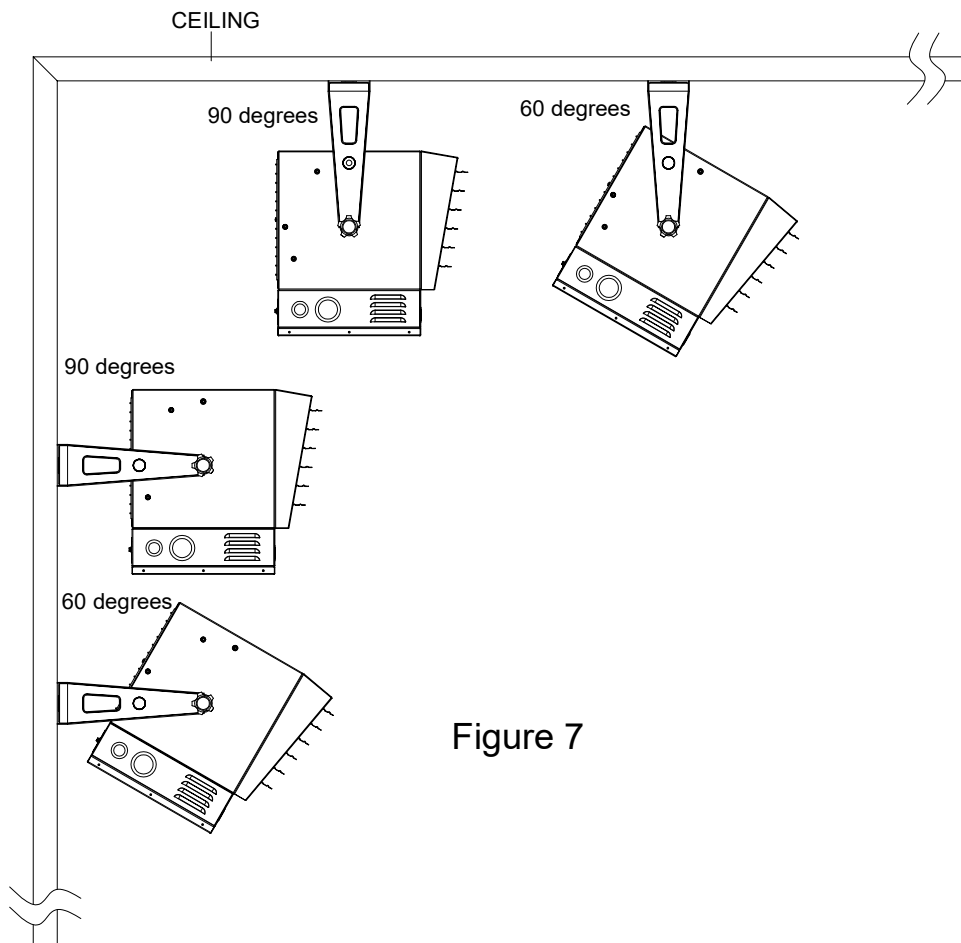

Figure 7
5. If the installation angle needs to be adjusted, refer to the figure 7 on page 8 in advance to confirm the allowable angle range and ensure the sufficient operating space.
5. The heater can be mounted with different angles listed in figure 7 as long as you maintain proper clearance listed on page 5.
1. To adjust the vertical tilt angle, first hold steadily the heater (to prevent it from falling off when the knob screws are loosen), then remove the upper knob screw and loosen the lower knob screw. (Do not remove the lower knob screw completely; Loosen it only until turning the unit is possible. See Figure 5a.) Slowly turn the heater to the desired angle. See Figure 7 for specific angle setting. Then insert the upper knob screw to the selected mounting hole and tighten the knob screws.